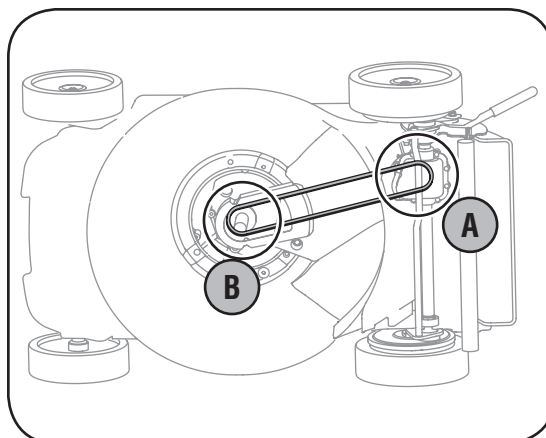

Figure 5-5: Remove belt from transmission and engine pulley.
b. Once belt is off transmission pulley, push down on deck baffle to access engine pulley and slide belt off this pulley and out from under the deck. See Figure 5-5.